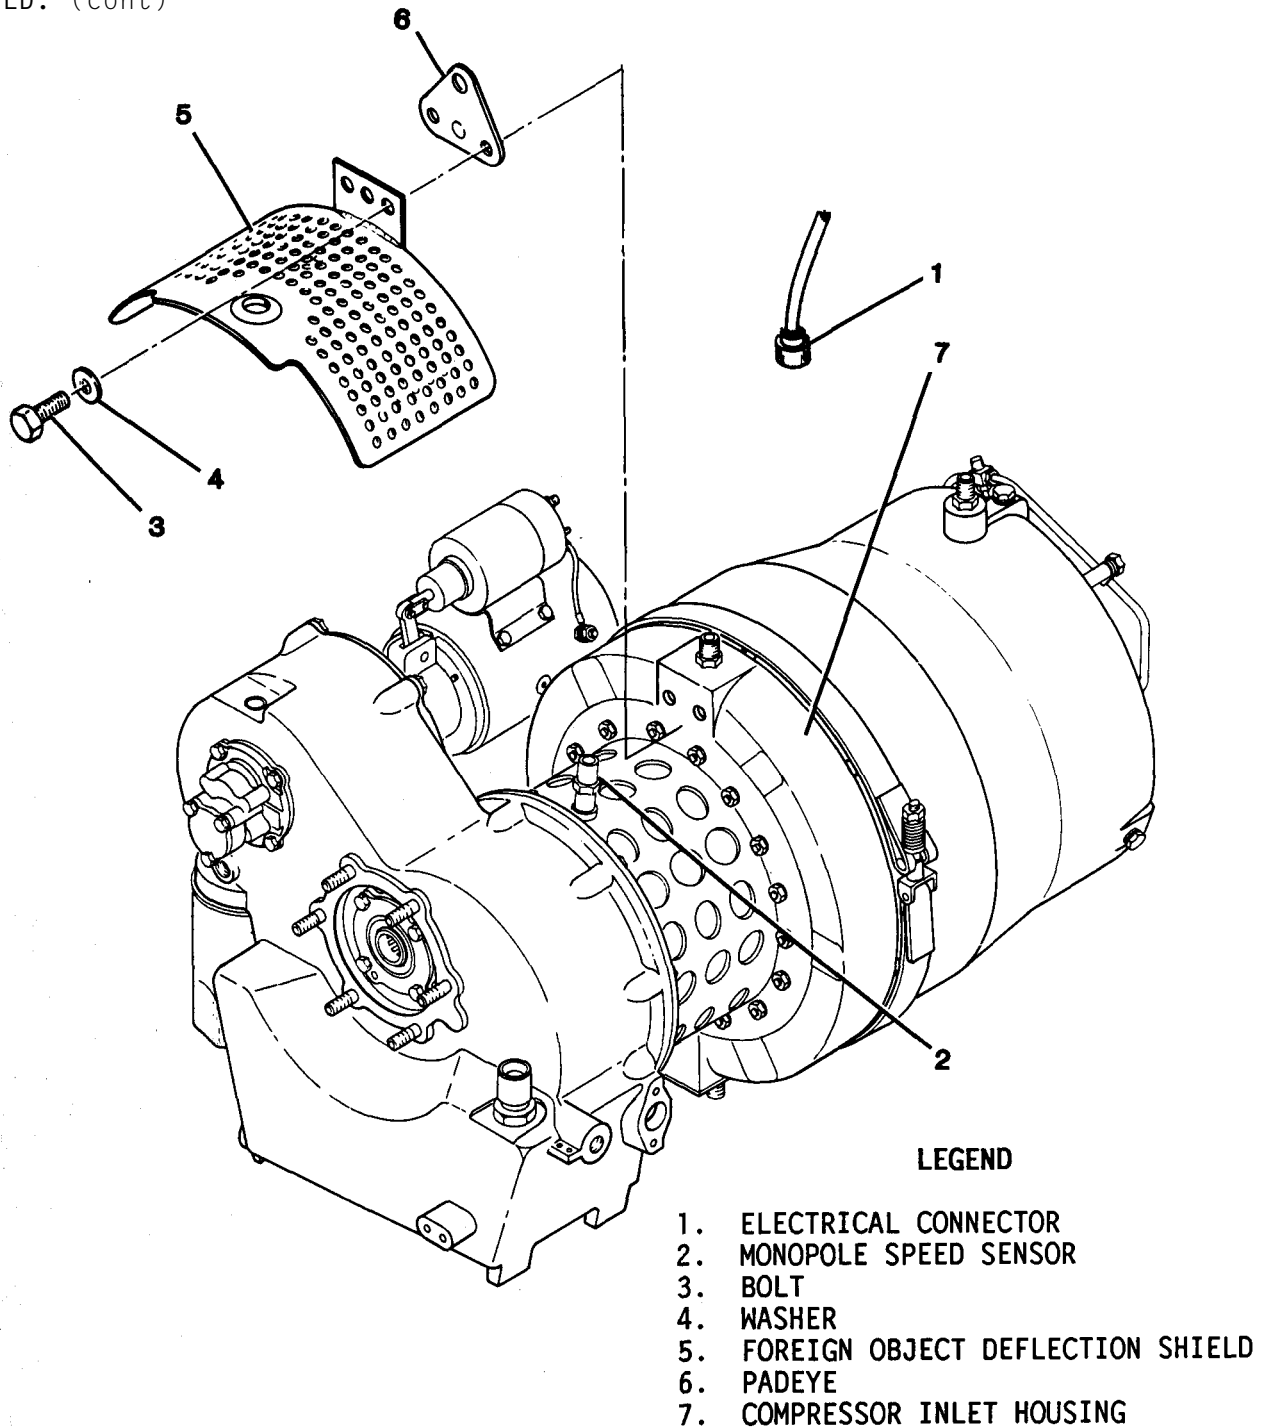

Figure 4-35. Foreign Object Deflection Shield Removal
**4-56. FOREIGN OBJECT DEFLECTION SHIELD.** Maintenance of the foreign object deflection shield (figure 4-35) is limited to replacement.